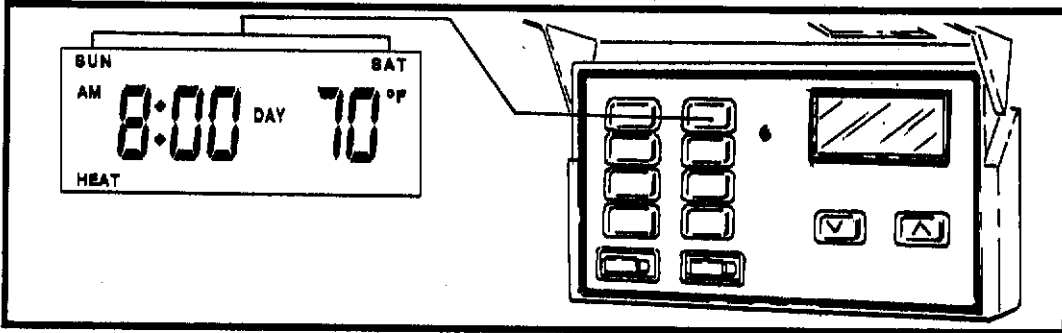

figure A-7
1. Press WEEKEND to enter the "weekend" program. Only DAY and NIGHT schedules can be used on weekends (figure A-7).